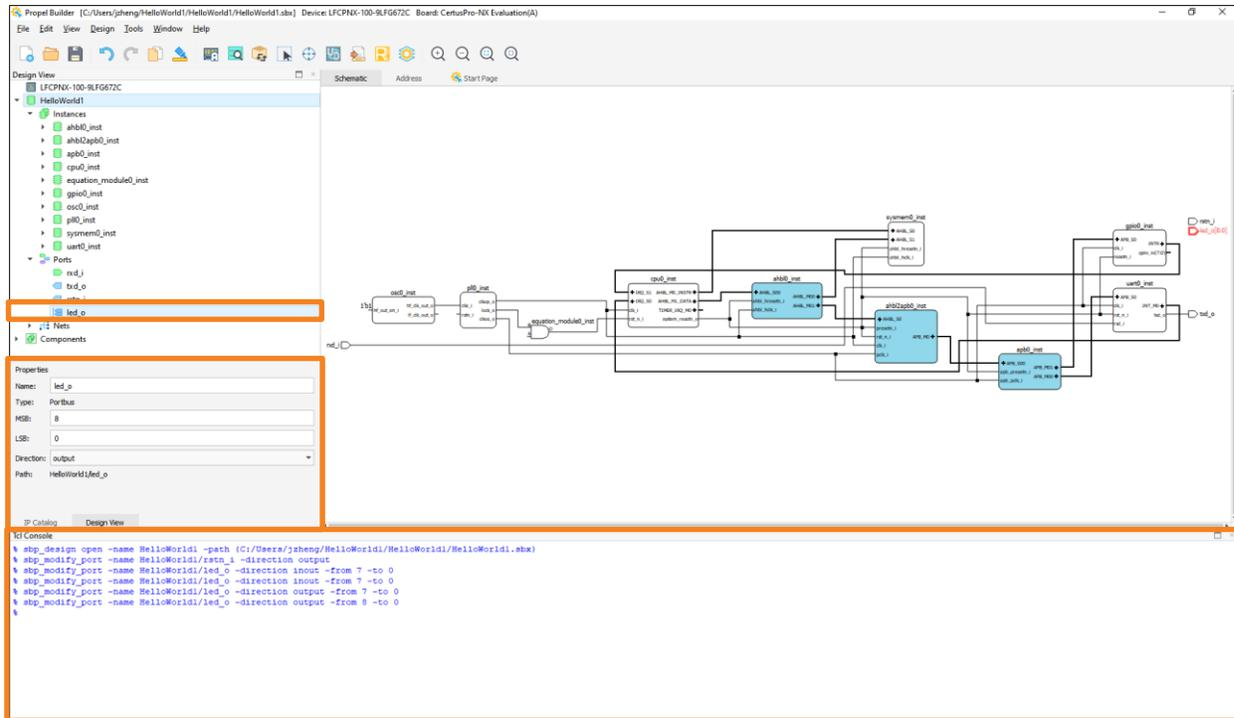

Figure 2.70. PortBus Direction
- d. PortBus MSB, LSB and direction can be modified. Click on PortBus and then use the drop-down menu to choose the desired direction (Figure 2.70).